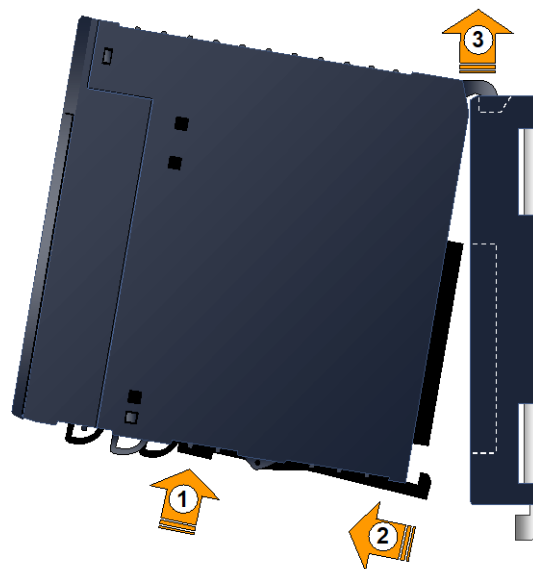

Figure 25: Removing The module from Backplane
- Locate the release lever(s) at the bottom of the module (Figure 25) and firmly press upward (1), toward the module. Wider modules have two release levers that must both be pressed up at the same time.
- While holding the module firmly and fully depressing the release lever(s), pivot the module upward until its connector is out of the backplane (2).